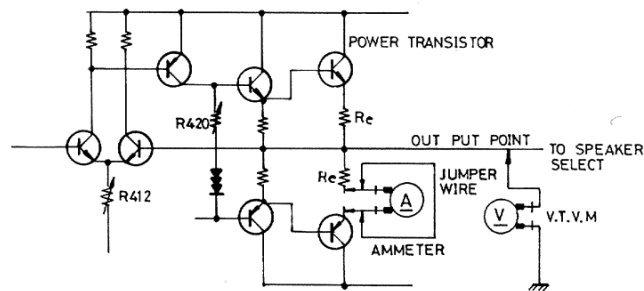

Fig. 2
Connection of a measurement instrument as shown Fig. 2. — This circuit is the standard one of main amplifier. —
- (1) Connect the probe of VTVM (D.C.) to a positive pole of output point. And connect the ground lead of VTVM (D.C.) to a chassis.
- (2) Insert an ammeter and a jumper wire together as shown Fig. 2.